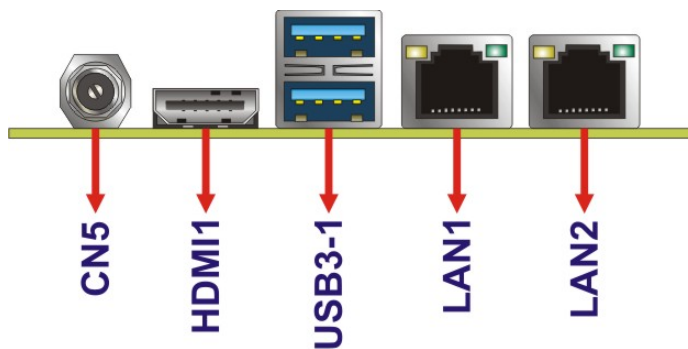

Figure 3-18: External Peripheral Interface Connector
Figure 3-18 shows the HYPER-AL external peripheral interface connector (EPIC) panel. The EPIC panel consists of the following:
CN Location: See Figure 3-18
CN Location: See **Figure 3-18**
- CN Location:** See **Figure 3-18**
CN Location:	See Figure 3-18